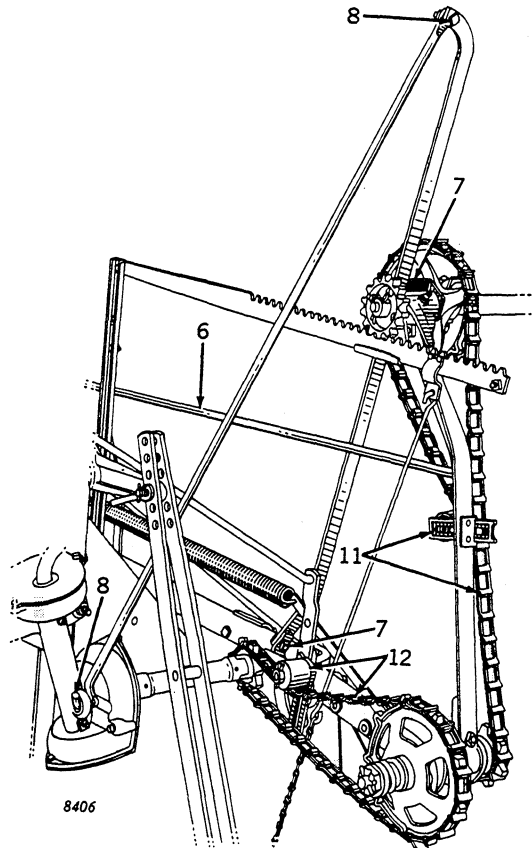

Figure 80
6. (Figure 80) Hook reel shifting rod in angle and fasten to lever with cotter pin. Install hook on rod toward platform.
7. (Figure 80) Pass reel slide bar in groove between guide bracket and pipe bearing. Bolt bar to rear of bracket on reel drive shaft.
8. (Figure 80) Bolt slide bar brace to slide bar as shown.
11. (Figure 80) Put long or upper chain over reel pipe and connect chain. Place chain over lower sprocket with slot side out and hook end pointing in direction sprockets turn. Turn chain onto upper sprocket by turning reel pipe. Adjust tightener.
12. (Figure 80) Set lower chain tightener up. Put short chain over small sprocket. Connect the chain and turn onto large sprocket. Adjust the tightener.